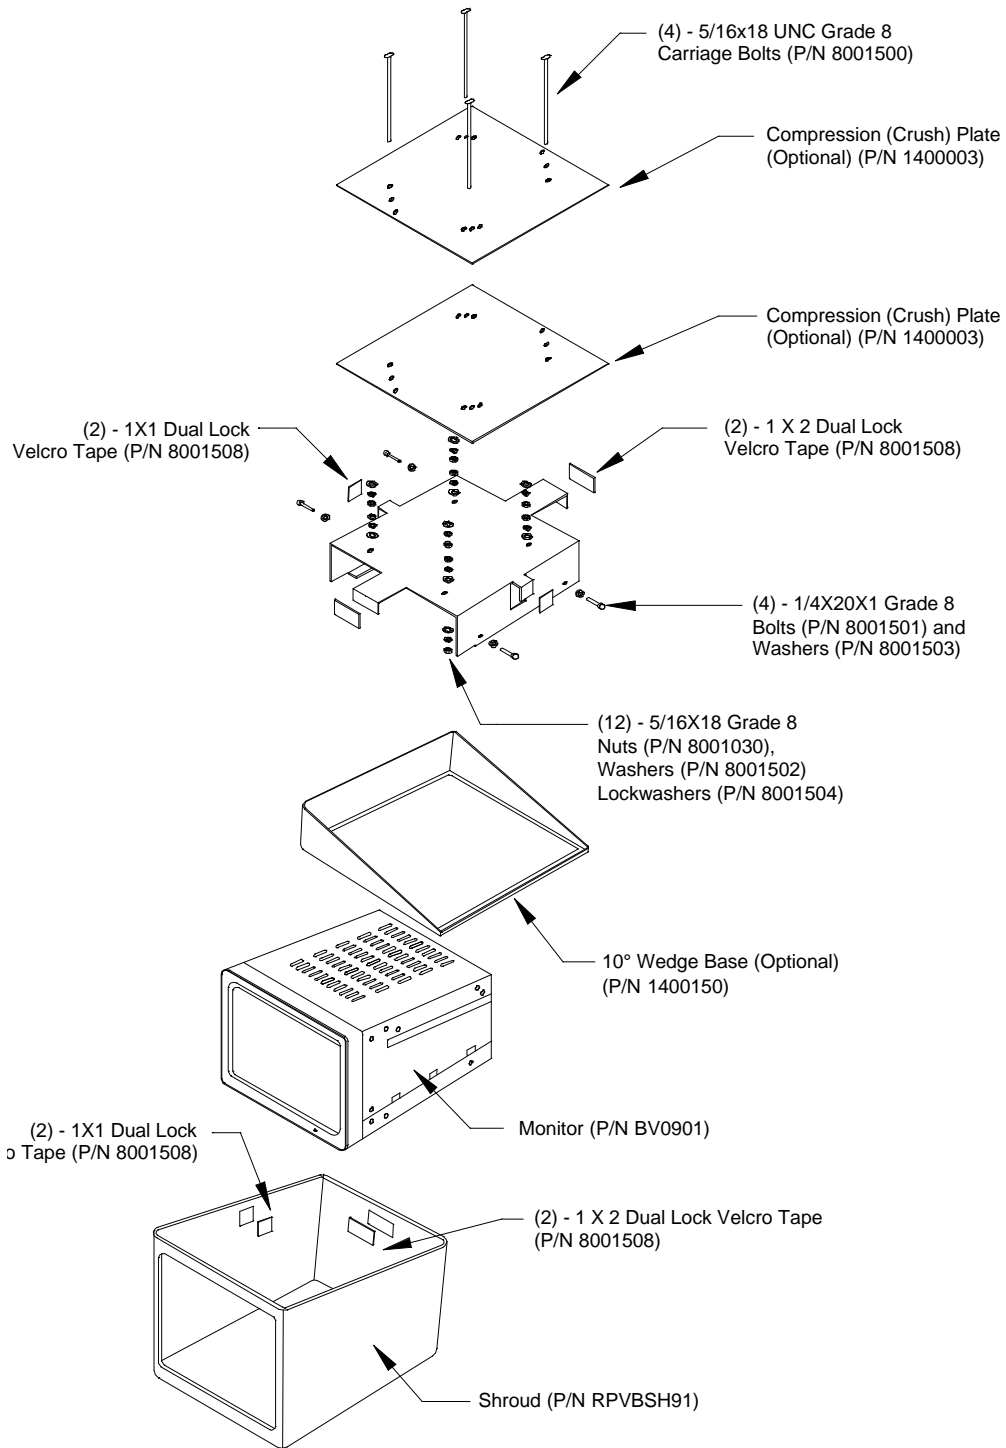

Figure 10
- 7) Monitor Installation (Fig. 10)
- d) Depending on the angle of the luggage rack, a 10° wedge base may be required to keep monitors parallel to the floor. (Fig. 10)
- i) Slide monitor into position and hand tighten two ¼-20x1" bolts to hold monitor in position. Adjust hardware combination to achieve optimal viewing position. (Fig.10)
- m) Place two 1" x 1" and 1" x 2" pads of "dual lock" velcro on mounting bracket. (Fig. 10)